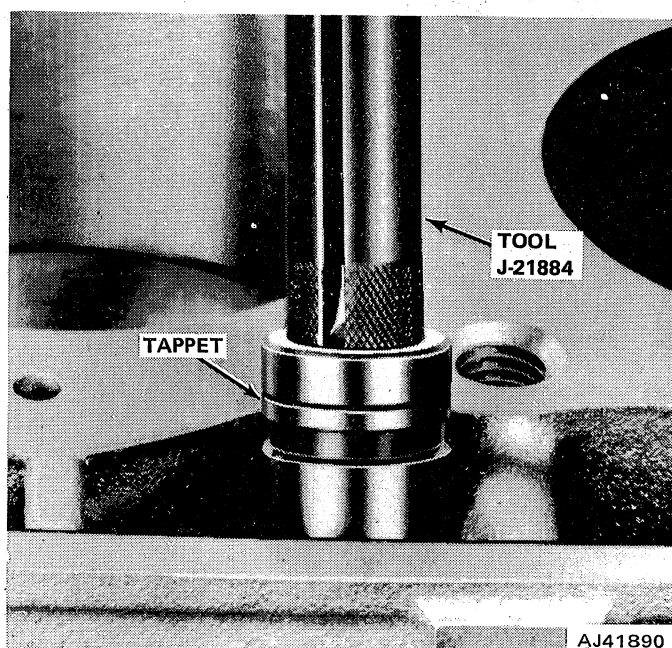

Fig. 1B-58 Hydraulic Valve Tappet Removal
(1) Release lockring and remove plunger cap, metering disc, plunger, check valve assembly and plunger return spring from tappet body (fig. 1B-56).
(2) Clean components in cleaning solvent to remove all varnish and gum deposits.
(3) Inspect for evidence of scuffing on side and face of tappet body.
(4) Inspect each tappet face for concave wear by laying straightedge across face. If face is concave, corresponding lobe on camshaft is also worn, and replacement of camshaft and tappet(s) is necessary.